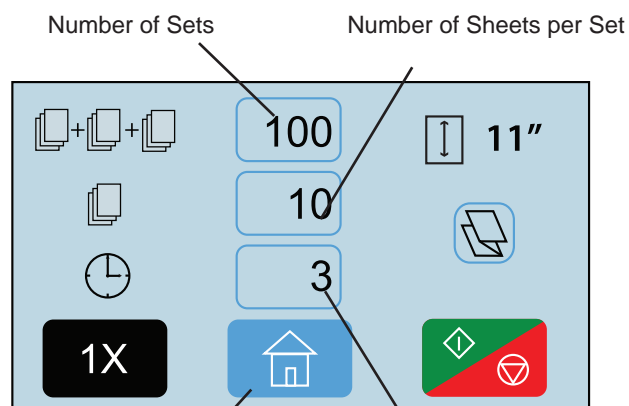
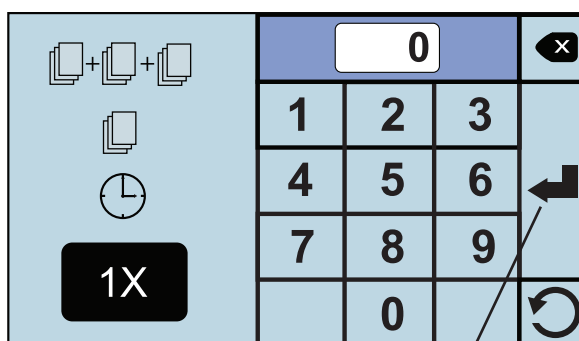

Fig. 12b
Fig. 12c
1. To enter the number of sets press the  icon (fig. 12b). Enter the number of sets on the keypad that appears. Next press the  icon to select the number of sheets, and then press the  icon to enter the delay between sets. Press the  to exit the keypad (Fig. 12c).
2. Press the  icon to begin folding. The folder will stop when the number of sets counts down to zero (0).